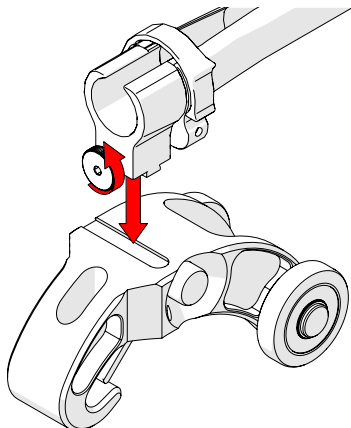

Fig. 87 - Loosen and slide on
1. Loosen the knob on the cable management dovetail mount. Position the mount onto the Dovetail QuickLink (Fig. 87).